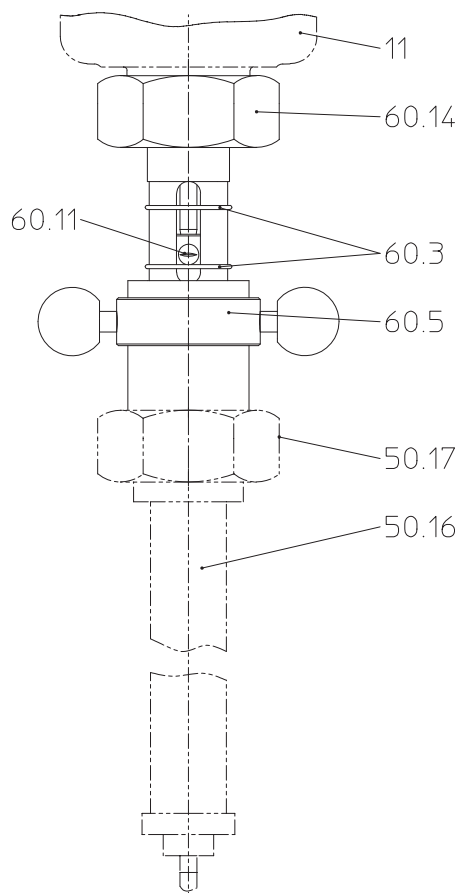

Fig. 2
- The manual control device is installed between the valve (pos. 11) and the actuator (pos. 50.16) of the thermal control valve (Fig. 2).
- The connecting nut (pos. 60.14) is fastened with about 100 Nm to the valve (pos. 11), the actuator (pos. 50.16) with about 50 Nm to the manual control device.